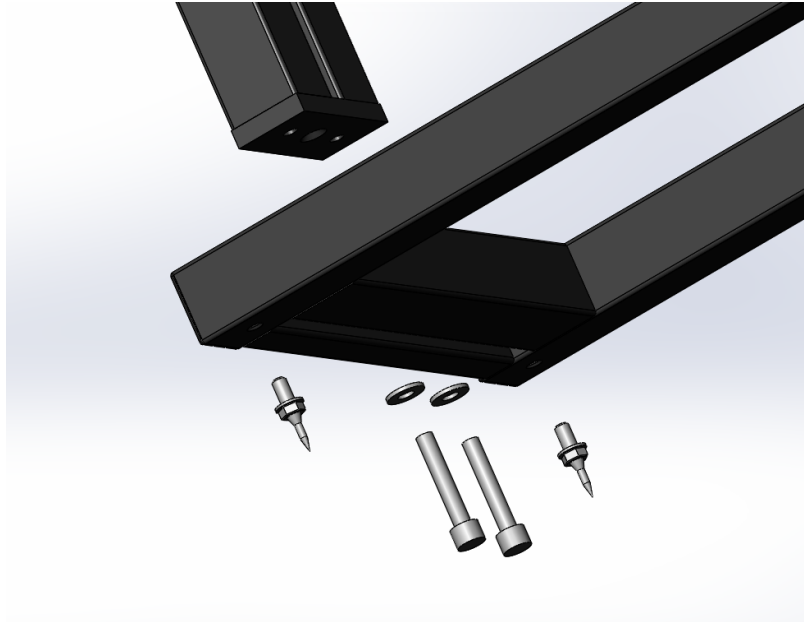

Figure 1
1. Fasten the base to the upright using 2 ea. 7/16-14 x 2.5 Socket Head Cap Screws and 2 ea. 7/16 Black Hardened Washers as shown in Figure 1.